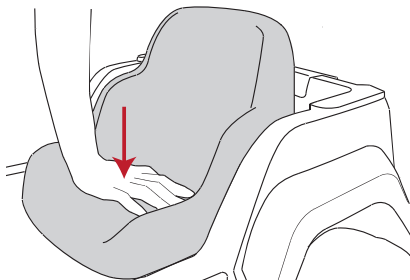

Figure 6
- Push down on the front part of the seat until you hear an audible click. See Figure 6.